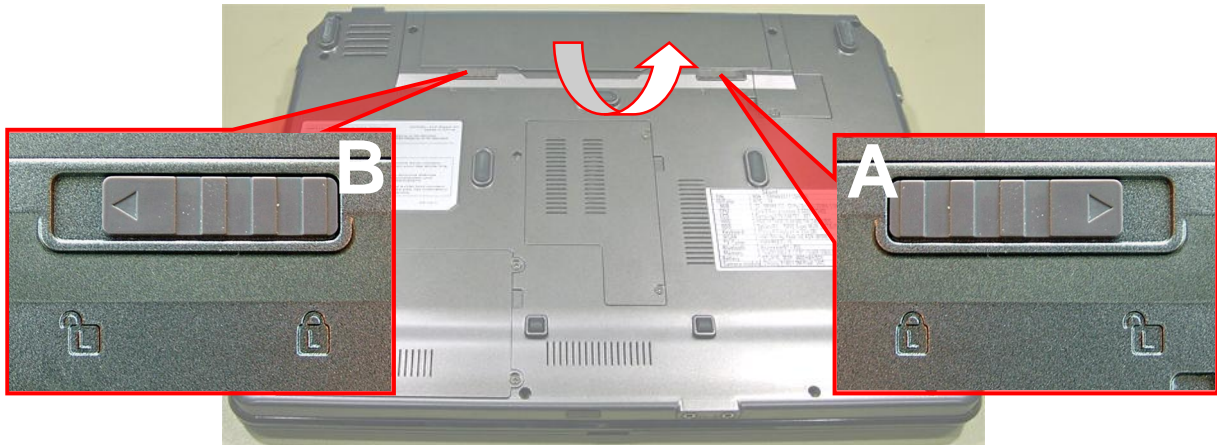

Fig. 1 Removing the battery.
4. Slide the battery release latch (B) to the release position (see Fig. 1).
5. Lift the battery upwards; there are three tabs holding the battery in place at the back (see Fig. 1).